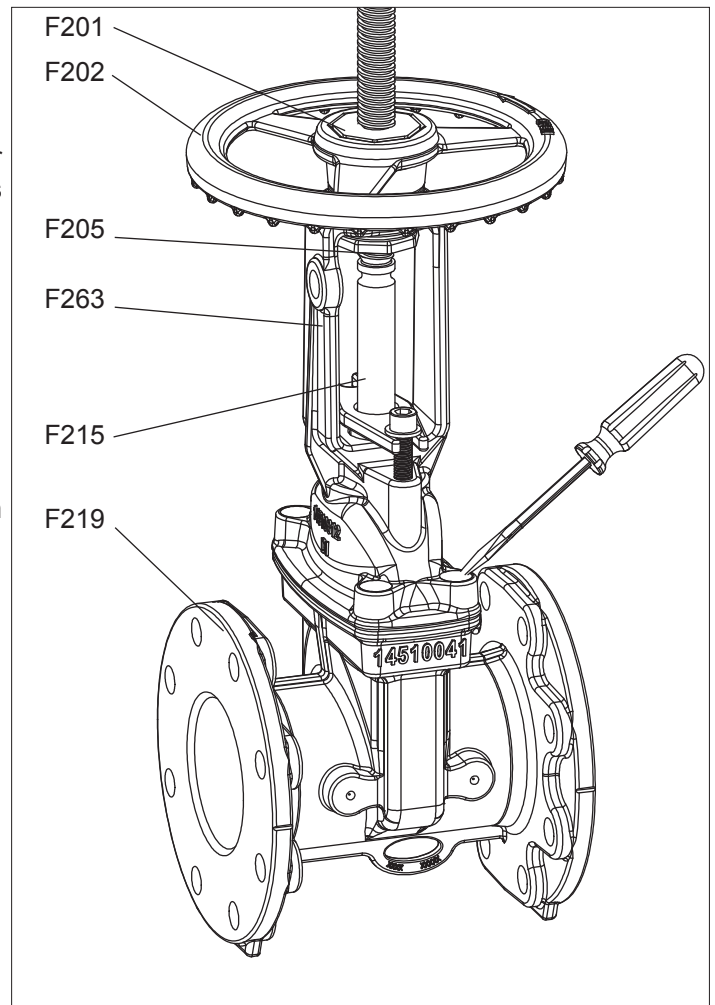

Fig. 6A
HANDWHEEL REPLACEMENT (Figs.6A,6B)
1. Using a small, flat bladed screwdriver, remove the hot melt glue that covers the Bonnet Bolts (F216). (See Fig. 6A)